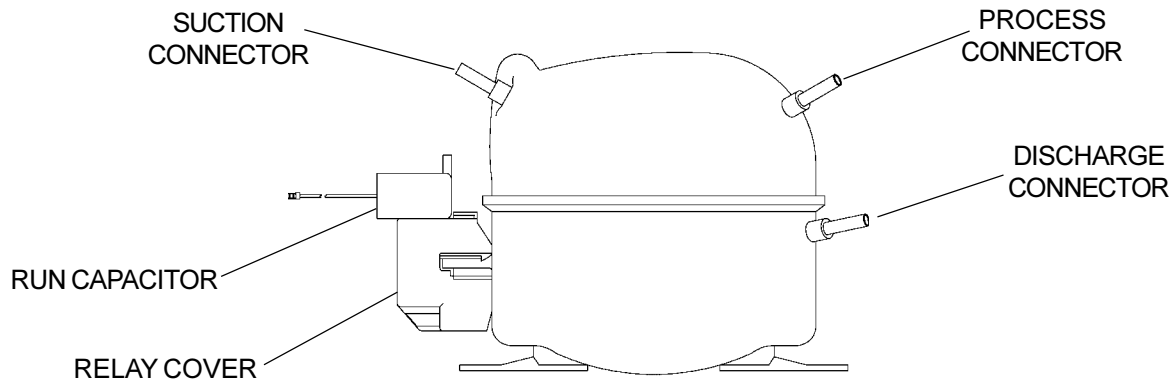

Figure 1.
1. Connect the refrigerant lines per figure 1.